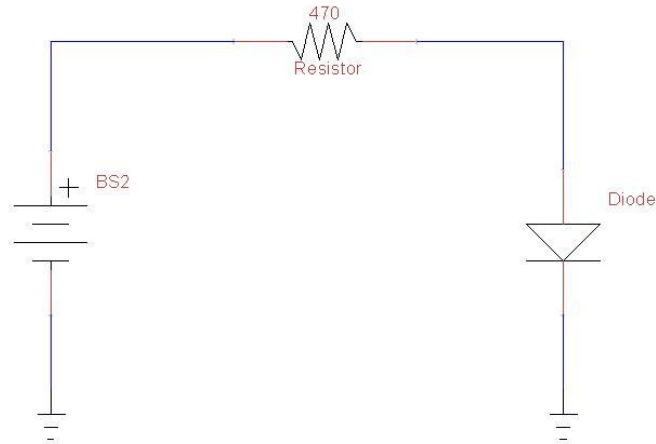

Figure 1
We must use a resistor with the LED to make sure that the amount of current provided to the LED is not so great that it damages the LED. Moreover, the diode must be connected properly, with the vertical bar in the figure connected to the “ground” terminal Vss. Another way to refer to “ground” is to use the minus sign, “-”. We will be using the circuit illustrated in Figure 1. To make a traffic light in which we don’t have to turn the LEDs on and off manually, we will program the BS2 microcontroller to do it for us (see Image 5 with a BS2 installed on the Board of Education). A BS2 is a small computer that can perform functions programmed by engineers. This computer is a small circuit with pins for connections. Some pins are used to provide power, while others are used to program the BS2. Still other pins are used to connect the BS2 to various devices like resistors, LEDs, or even motors and other computers, although in this activity we will connect only LEDs and resistors. The pin labeled P0 in the figure denotes pin 0 on the BS2.
Insert Figure 1 here, centered
Image file name: traffic_light_fig1.jpg
- Set up an LED circuit using the diagram in Figure 1, as well as a working Basic Stamp traffic light as pre-activity demonstrations. Refer to introduction and the first reference as needed.
5. After demonstrating a working LED, have students build and test a basic circuit in Figure 1, using the following sequence of steps.
- a. The programmer opens the Basic Stamp editor and enters the program shown in the right-hand window in Image 6, saving the file as program1.bs2. The builder builds the circuit in Figure 1. Students read the help menu to learn about commands HIGH, LOW, and PAUSE. Note the units in which time is measured in the PAUSE command. Also have students note that the LED in this example is connected to pin P0 on the BS2. Have the tester run the program and verify the design in consultation with others.
6. Pass out the yellow and green LEDs along with two 470 Ohm resistors. Now each team will build a traffic light with the following specifications. The traffic light is to have three LEDs: red, yellow, and green. The red LED should remain on for 10 seconds, the yellow for 5 seconds, and the green LED for 30 seconds. To cycle through all three LEDs is therefore to take 45 seconds. The sequence is to repeat indefinitely, simulating the operation of a real-world traffic light. To build the circuit, students will use three LED circuits as in Figure 1, and will build upon the programs they have written in step 5.